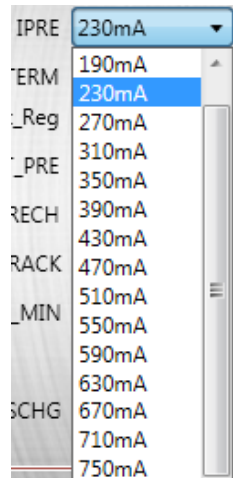

Figure 9: Pre-Charge Current Setting
- Set the pre-charge current (see Figure 9). The pre-charge current ranges between 150mA and 750mA, and the default value is 230mA.